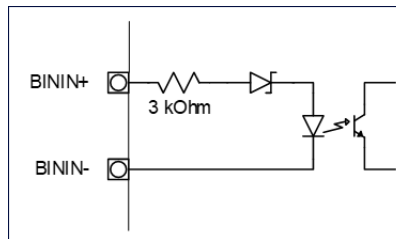
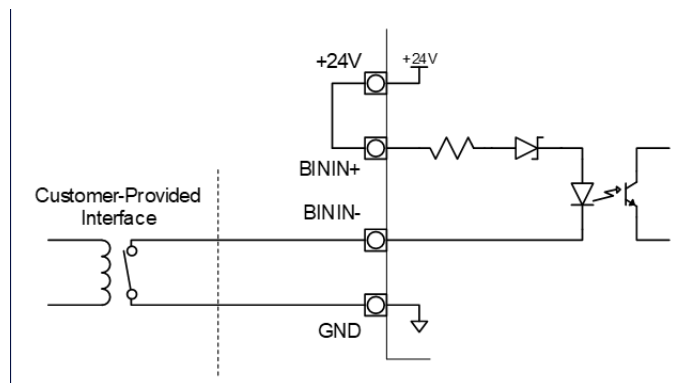

Figure 3-4: Isolated State Input Circuit Detail
Figure 3-5: Instrument-Powered Isolated State Input Circuit Application
- Binary (Start/Stop) Inputs — Table 3-3, "Isolated State Inputs \(J2\)," on page 70 and Figure 3-4: Isolated State Input Circuit Detail on page 71 and Figure 3-5: Instrument-Powered Isolated State Input Circuit Application on page 71.
The Sievers M500 TOC Analyzer has two isolated binary inputs. These can be wired in a variety of ways and are intended to execute a start/stop commands to the Analyzer from a remote location, such as a Process Logic Control (PLC) System or Center. Pin-out details are included in Table 3-3. Wiring examples are shown in "Figure 3-4: Isolated State Input Circuit Detail" on page 71 and "Figure 3-5: Instrument-Powered Isolated State Input Circuit Application" on page 71.